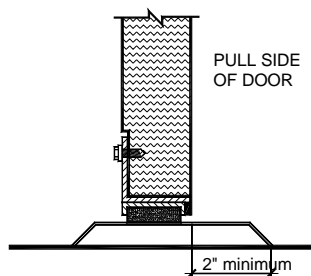
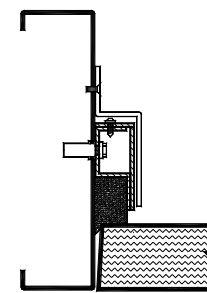

FIGURE 5
FIGURE 6
B. Install the L-Frame door bottom seal (**Fig. 5**) with the 1/4-20 machine bolts provided and then adjust it to the highest position. At this point, all other mortised and surface applied hardware supplied by others can also be installed. Note that heavy duty offset hardware mounting brackets (**Fig. 6**) are provided for all hardware intended to be mounted to the frame stop. No hardware should be mounted directly to the seal assembly. Prior to installation of perimeter seals, check the door for proper clearances (1/8" at edges and meeting stiles, 3/16" at top). The weight of these doors often requires minor shimming of hinges in order to square them in the opening and slotted metal shims which can be placed under the hinge are provided for this purpose.